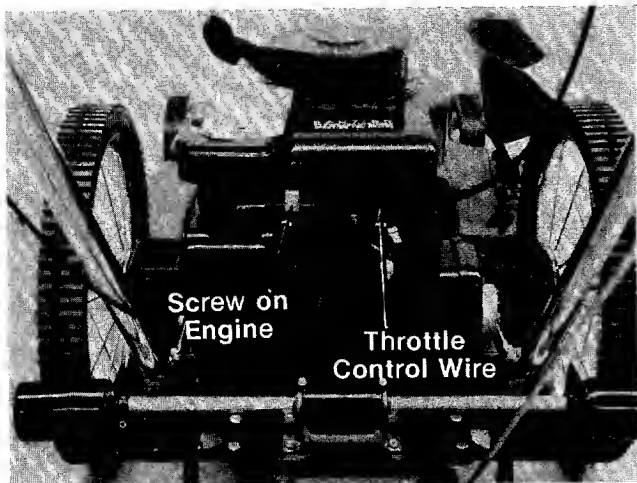

FIGURE 13.
1. Loosen, but do not remove, screw securing throttle control wire assembly at engine. See figure 13.